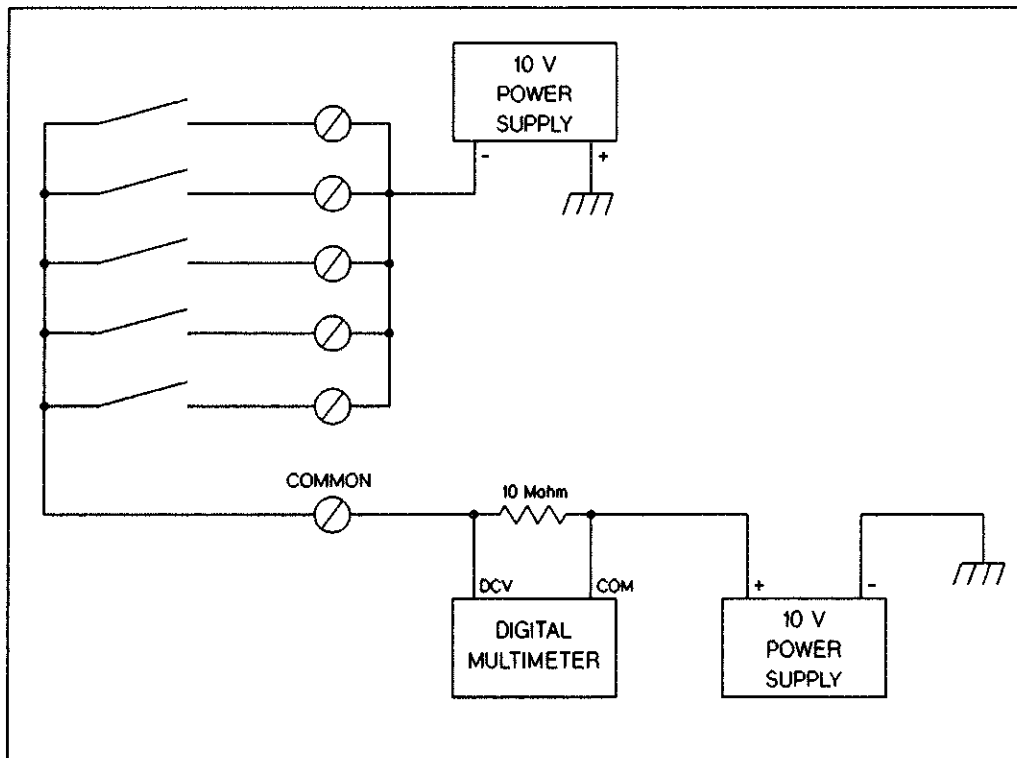
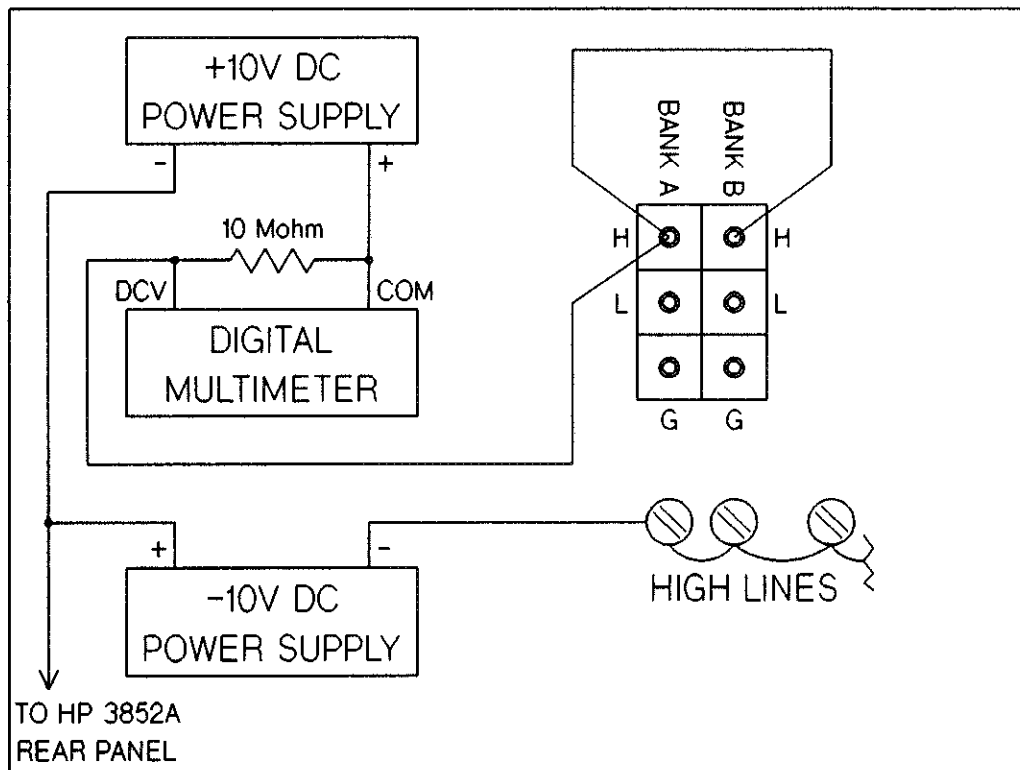

Figure 9-17 Open Channel Leakage Test
Figure 9-18 HP 44709A/44710A Open HIGH Channel Test Set-Up
1. OPEN CHANNELS LEAKAGE/BIAS CURRENT TEST. This test checks the leakage current with all channels open. A simplified schematic of the setup is shown in Figure 9-17 and the test setup for the HIGH lines is shown in Figure 9-18.